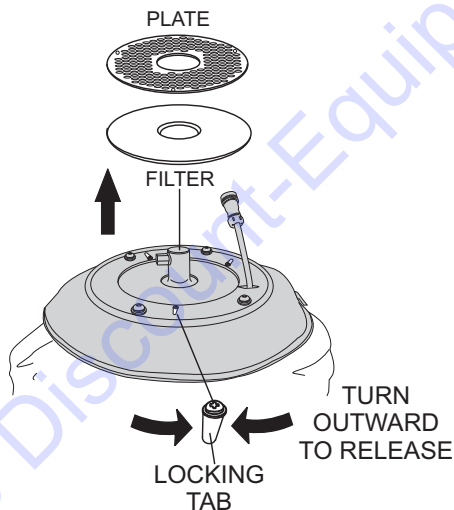

Figure 27. Filter Removal
4. Turn the three locking tabs (Figure 27) inward to release the plate. Remove plate and filter.